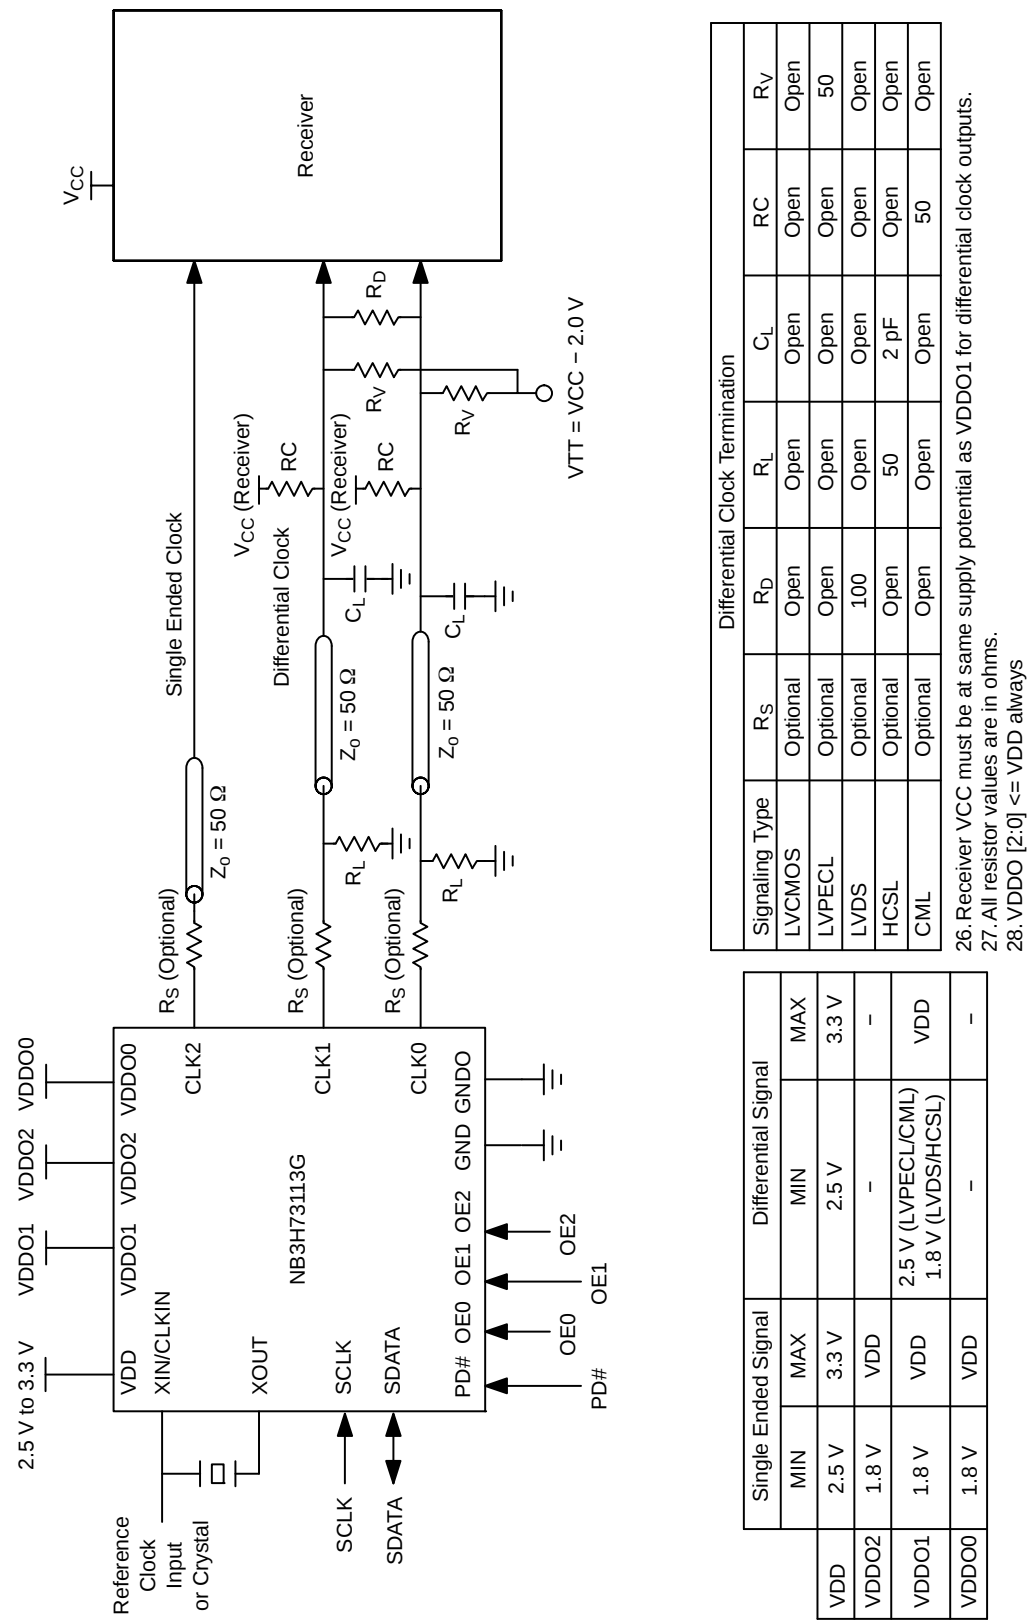

Figure 6. Typical Termination for Single Ended and Differential Signaling Device Load
7. Measurement taken with single ended clock outputs terminated with test load capacitance of 5 pF and 15 pF and differential clock terminated with test load of 2 pF. See Figures 6, 7 and 12. Specifications for LVTTTL are valid for VDD and VDDO 3.3 V only.
20. Measurement taken from single ended clock terminated with test load capacitance of 5 pF and 15 pF and differential clock terminated with test load of 2 pF. See Figures 6, 7 and 12.